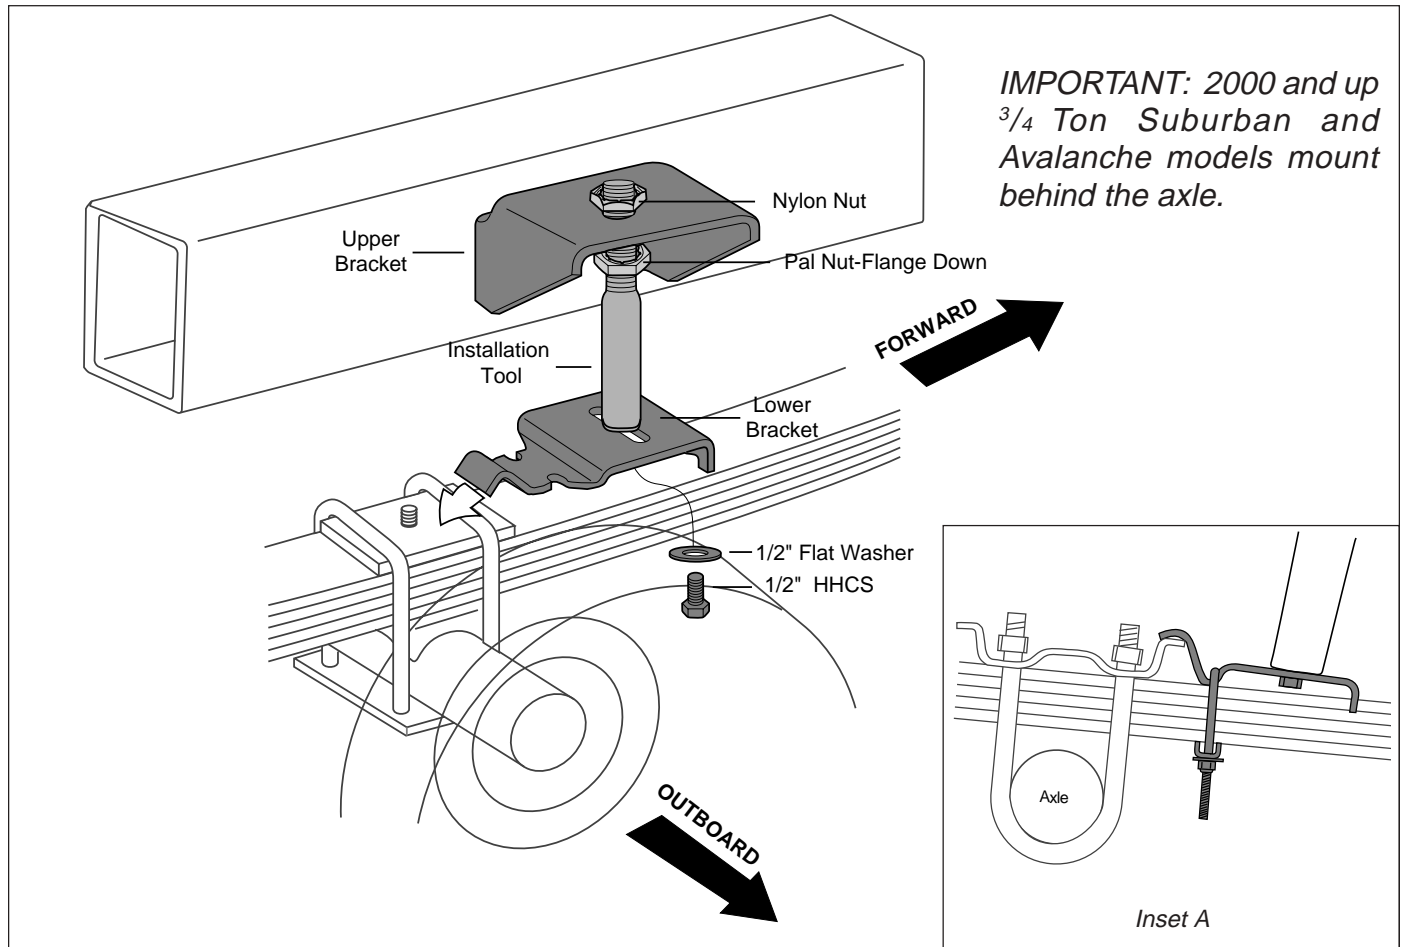

Figure 1
1. Place the upper bracket onto the threaded end of the tool and rest the bracket on the bottom Pal nut (flange down). Then thread a nylon nut onto the tool to hold the bracket in place (Figure 1).
2. Use a 1/2" flat washer and the 1/2" x 7/8" bolt to attach the lower bracket to the bottom of the installation tool. Leave just loose enough to adjust in and out (Figure 1).
- With the hook end of the lower bracket placed over the existing U-bolt or Spring Retainer, secure the lower bracket to the leaf spring with the provided U-bolt, flat washers, and lock nuts. Torque to 16 ft-lbs (Figure 1 and Inset A).
IMPORTANT: There must be at least 1.5" above the upper bracket for air fitting clearance. The brackets can be mounted anywhere within the threaded range of the installation tool (Figure 1).